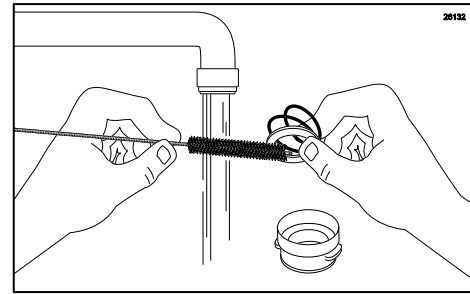

Figure 88
4. Clean the two o-rings, the white gasket and the Spout Adapter with a small brush and detergent water, and rinse thoroughly. (See Figure 88.)